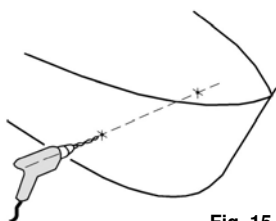

Fig. 15
- Located the position on the boat according to the information submitted in the previous paragraphs, drill two holes in the hull to locate the centre of the tunnel (**Fig. 15**).